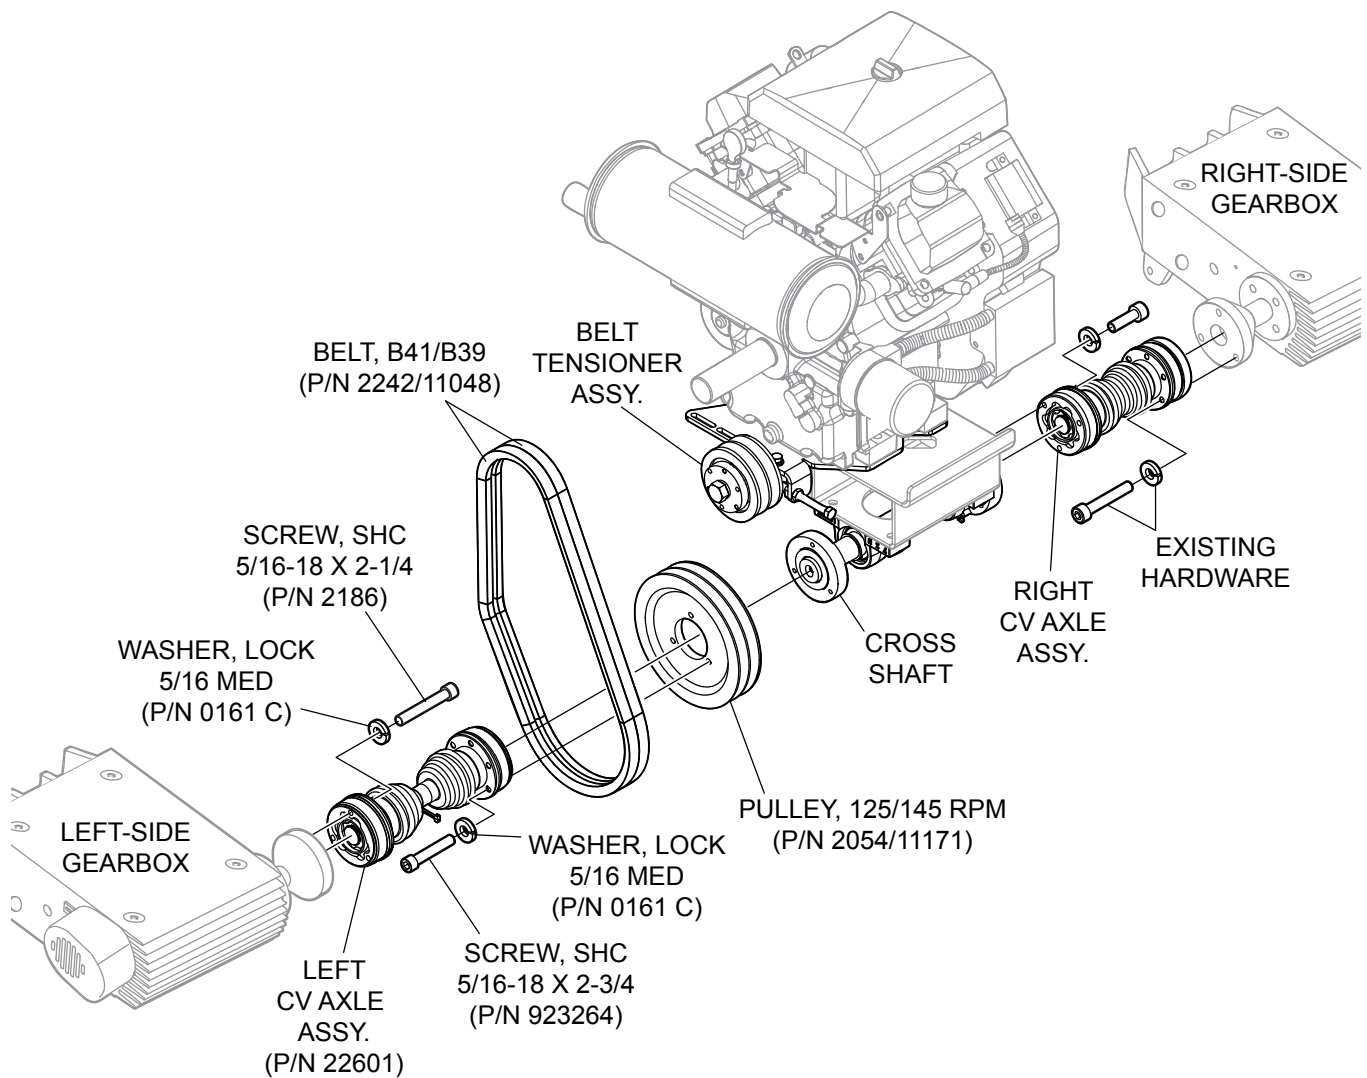

Figure 16. Lower Pulley/CV Axle Installation
2. Use existing mounting hardware to connect right-side CV axle assembly to right-side gearbox coupler (if applicable) and cross shaft coupler. See Figure 16.
1. Mount new lower pulley (P/N 2054 or 11171) between cross shaft and new left-side CV Axle assembly (P/N 22601). See Figure 16. Apply a thin coat of RVT silicone to mating surfaces of pulley and CV Axle assembly.
2. Use new mounting screws (P/N 923264) and lock washers (P/N 0161 C) in 3 places. See Figure 16.
4. Secure new left-side CV Axle to left-side gearbox coupler with new mounting screws (P/N 2186) and lock washers (P/N 0161 C). See Figure 16.